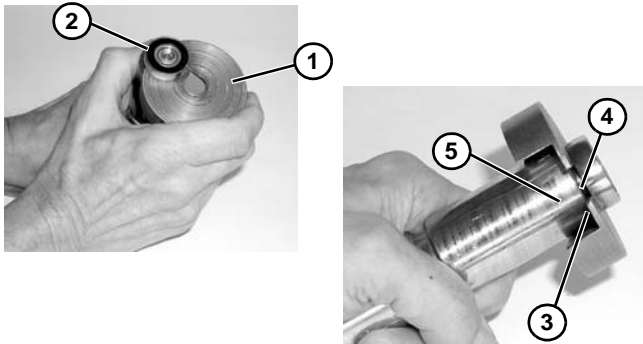

Figure 65
1. Place bearing removal tool part #456063 (**Figure 65, item 1**) below bearing (**Figure 65, item 2**) with lip (**Figure 65, item 3**) located in gap (**Figure 65, item 4**) between bearing and spindle hub (**Figure 65, item 5**) as shown.